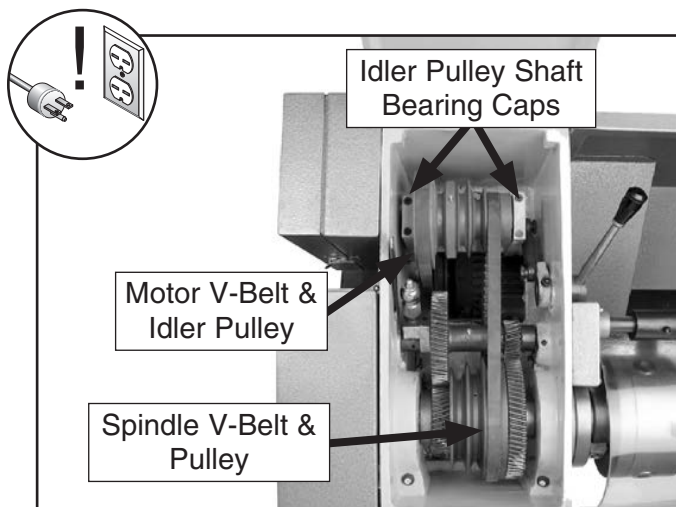

Figure 93. V-belts and pulleys.
- Remove the two idler pulley shaft bearing caps shown in **Figure 93**.